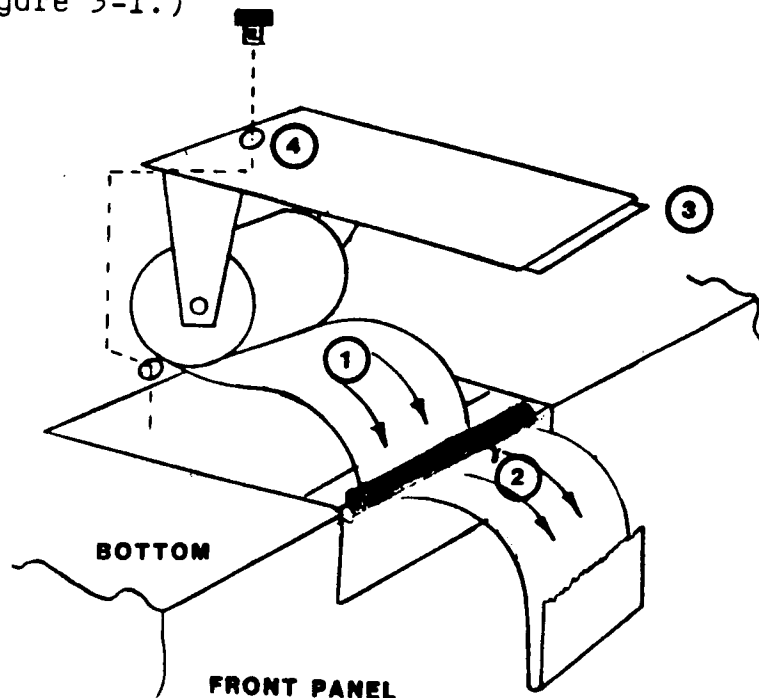

Figure 3-1. Paper Installation
Fold the end of the paper roll back about 2" and insert folded edge into the printer at (1) and hit PAPER ADVANCE twice (see section 5.11.4) to feed paper out of front panel at (2). Replace paper holder/door by placing tongue (3) under slot in front rail and secure with thumb screw (4). (See Figure 3-1.)